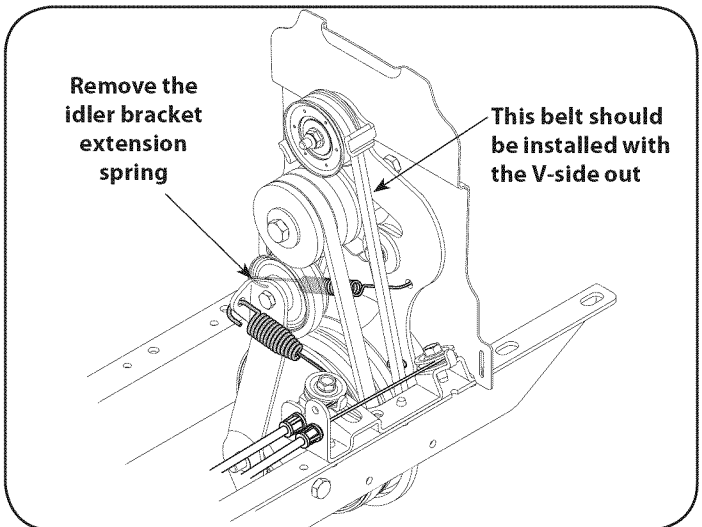

Figure 25
4. Remove the idler bracket extension spring. See Figure 25. It is recommended to use a pair of needle-nosed pliers, and grab the spring by the end that hooks over the frame. Simply grab it and pull it away from the frame, then up wards and carefully relieve the tension of the spring.